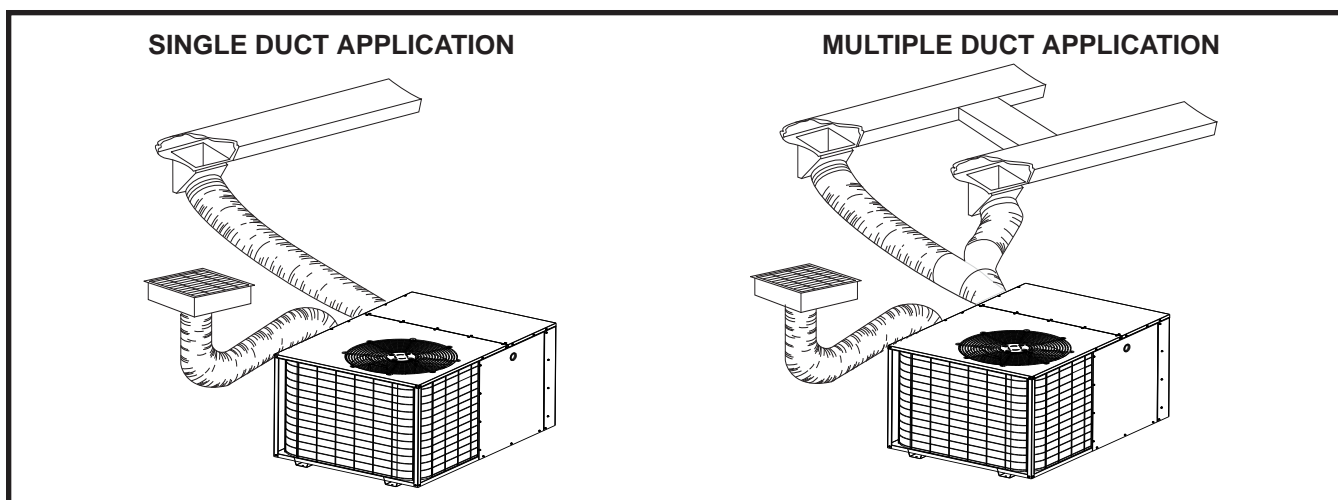

Figure 3. Single & Multiple Duct Applications
- The supply duct system, including the number and type of registers, will have much more effect on the performance of the system than any other factor. The duct must be sufficiently large to conduct an adequate amount of air to each register. See Figure 3 (page 6).